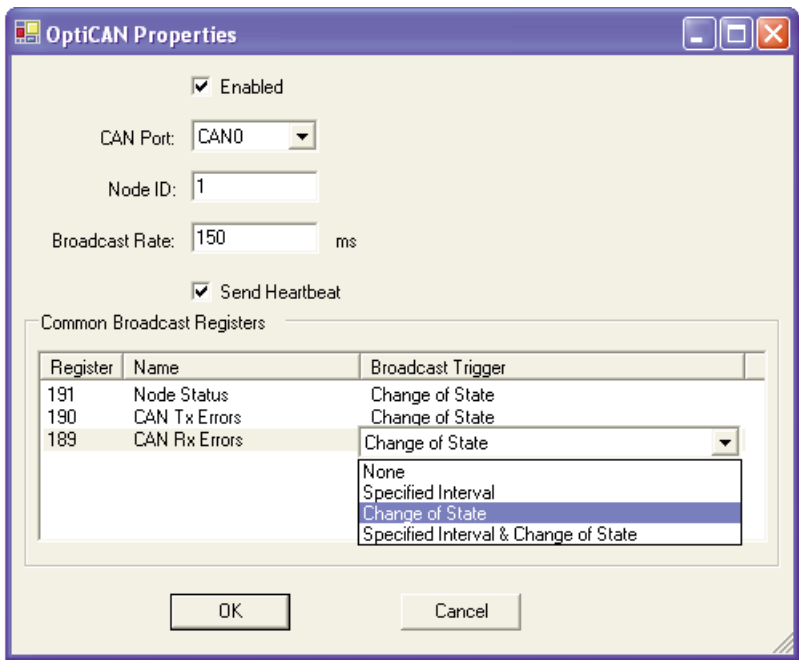

Figure 16.2
4. Click on the *Enabled* checkbox to 'check it'. This activates the OptiCAN for the target. When selected, the other previously not available boxes become available. See Figure 16.2.
5. Using the *CAN Port* drop down box, select the correct CAN port the network will be using. Please note, different CAN Port options will be shown dependent upon the actual target selected. See Figure 16.2.
6. In the *Node ID* text box, type in the node ID of the controller (network address). See Figure 16.2.
7. In the *Broadcast Rate* text box, type in the broadcast rate for the controller in milliseconds. This timing should have been determined during the network planning phase. See Figure 16.2.
8. Click on the *Send Heartbeat* checkbox if required. When checked, the controller will send a 'heartbeat' across the network. This 'heartbeat' may be used to determine if communication is functional to other devices. See Figure 16.2.
9. Common broadcast registers may be configured here. These registers can be configured to 'broadcast' at a specified interval, On a Change of State or both. If required for your application, click on the register and use the drop down box to select a Broadcast trigger. See Figure 16.2.